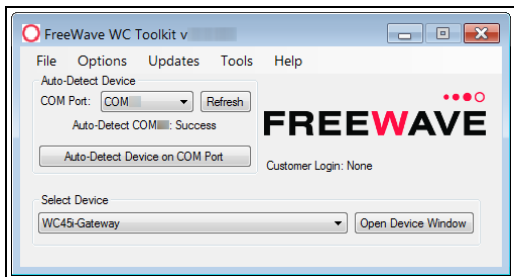

Figure 17: Select Device window
8. Open the **WC Toolkit** software. The **Select Device** window opens. (Figure 17)